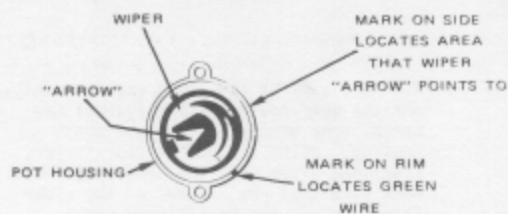

FIGURE 2.
7. The wiper (6) is now visible. Make a pencil mark on the side of the pot housing that the wiper "arrow" points to. See Figure 2.